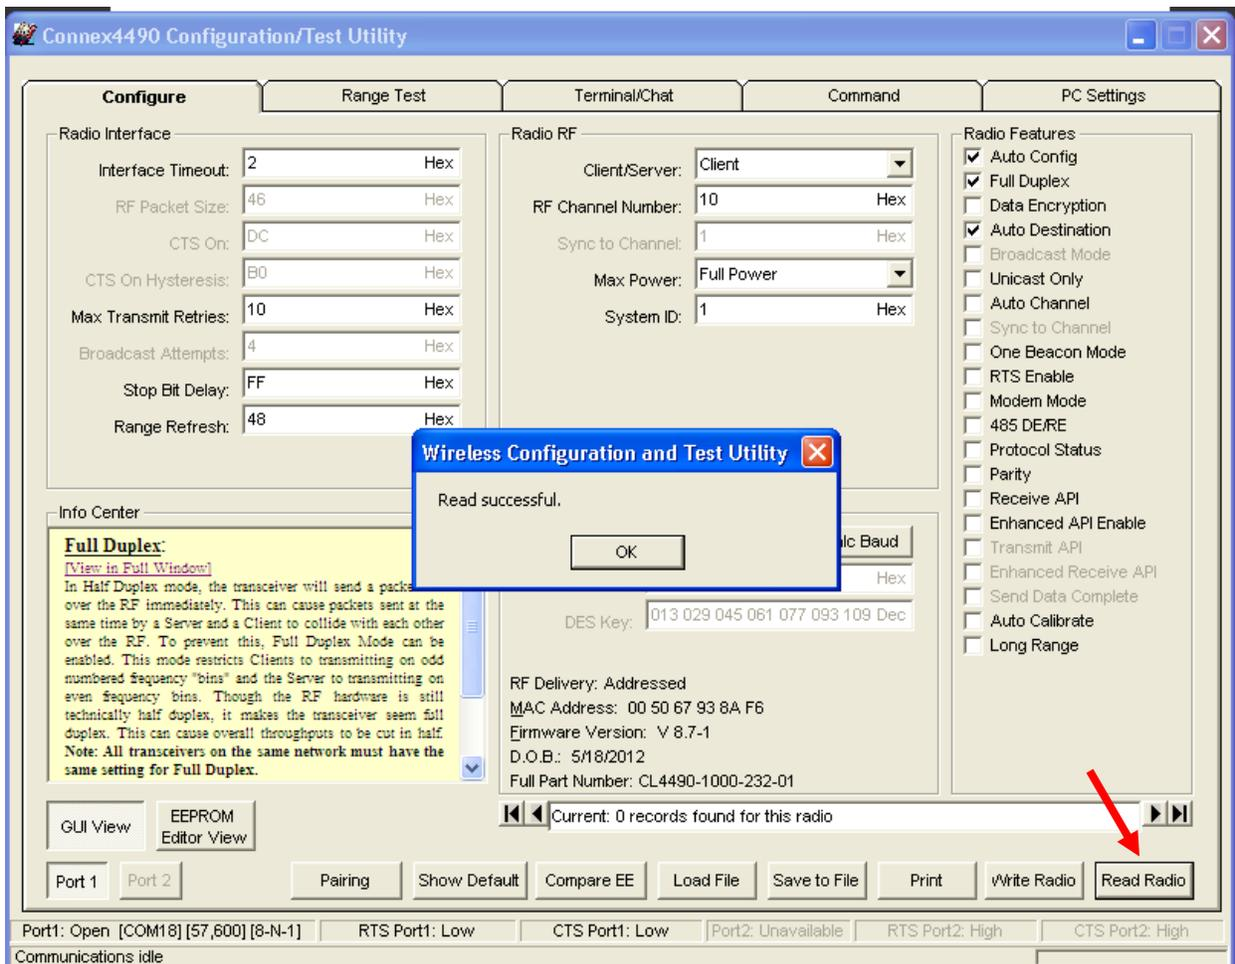

Figure 9: Configure tab - Read Successful
6. Go to the Configure tab and click the **Read Radio** button at the bottom right of the screen. A message stating “Read Successful” should appear after a successful read (Figure 9).